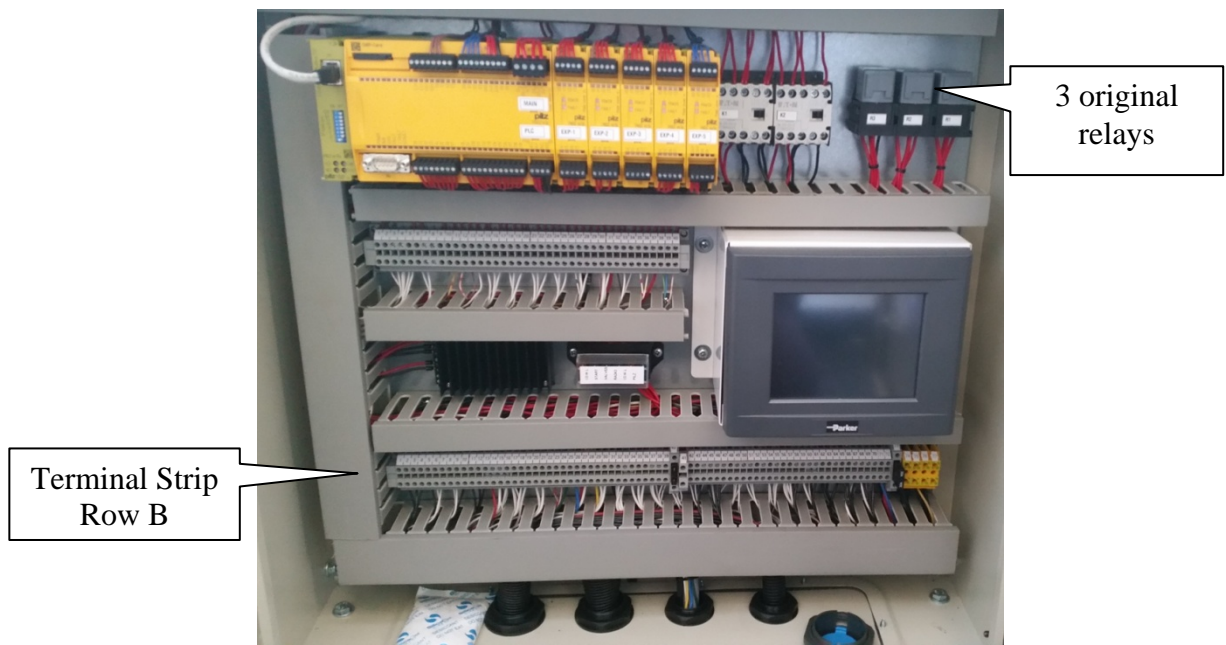

Figure 1: Inside main electrical enclosure
- Step 3:** Unmount the 3 relays and holders, and position them further left to allow room to fit an extra relay on the side – See Figure 1.